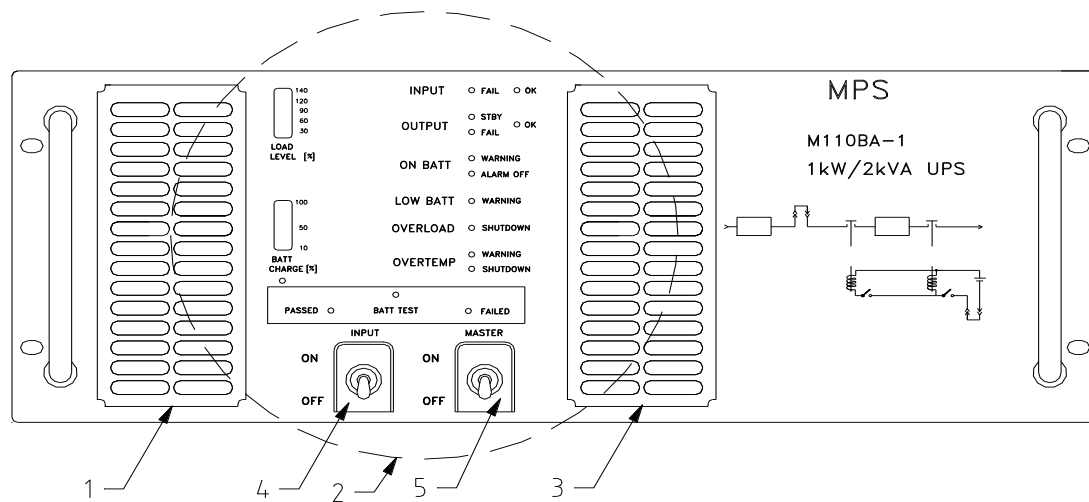

Figure 4: Front Panel: Main Components
4.1 Front Panel: Main Components (See Figure 4)
6. Operation, Controls and Indicators (ref. Figures 4 and 5)